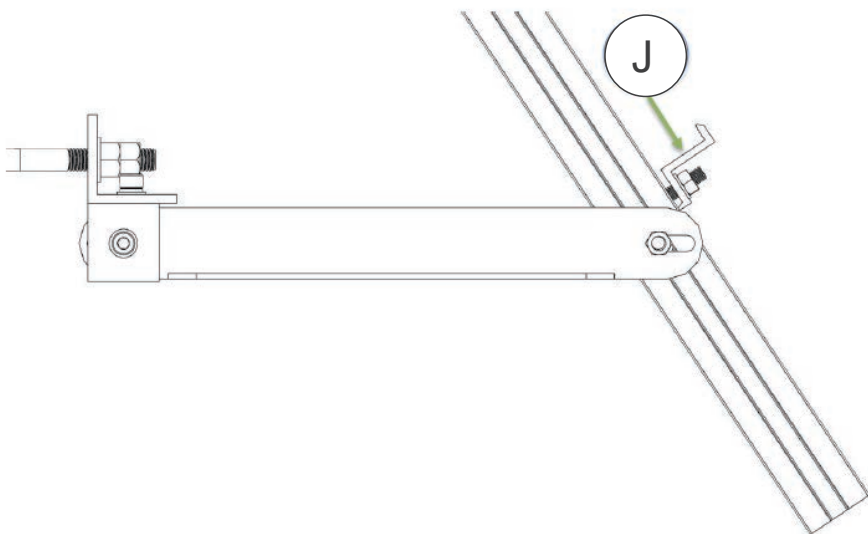

Figure 6
- A. Hold the panel up to the pole mount to determine approximate position that End Clamps (J) must be to hold panel.
- C. Slide a T-Bolt (F) through T-Slotted Bracket (A) to the appropriate location.
- D. Orient the clamps as they are in Figure 6.